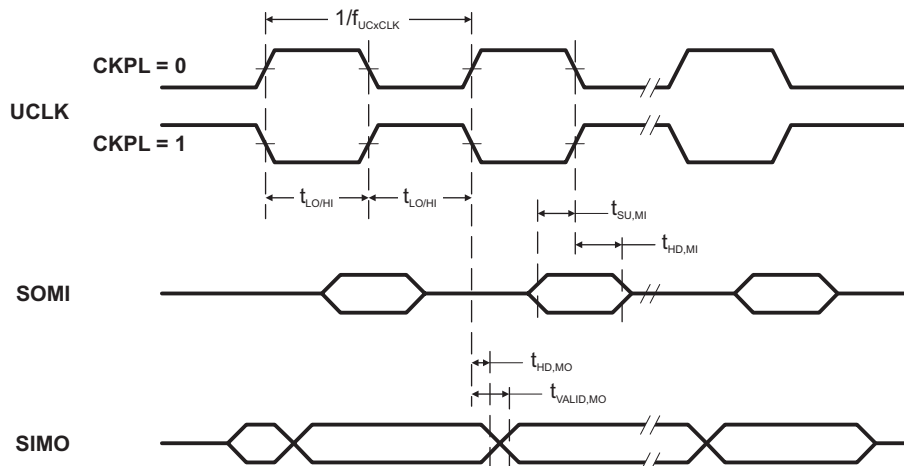

Figure 3. SPI Master Mode, CKPH = 0
(see Note (1), Figure 3 and )
- (2) Specifies the time to drive the next valid data to the SIMO output after the output changing UCLK clock edge. Refer to the timing diagrams in Figure 3 and .
- (3) Specifies how long data on the SIMO output is valid after the output changing UCLK clock edge. Negative values indicate that the data on the SIMO output can become invalid before the output changing clock edge observed on UCLK. Refer to the timing diagrams in Figure 3 and .